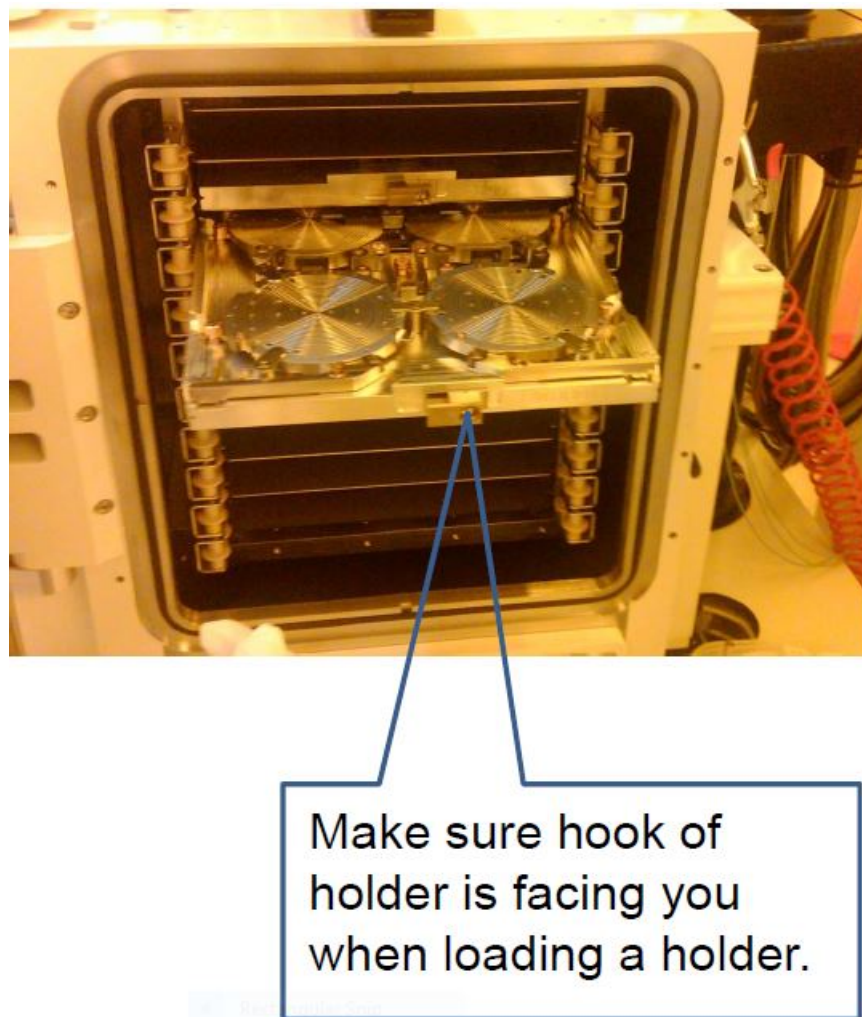

Fig. 2. Load holder into cassette.
- Open the airlock door and load the holder into its original cassette position. Make sure that the holder “hook” faces towards you; please refer to Fig. 2.